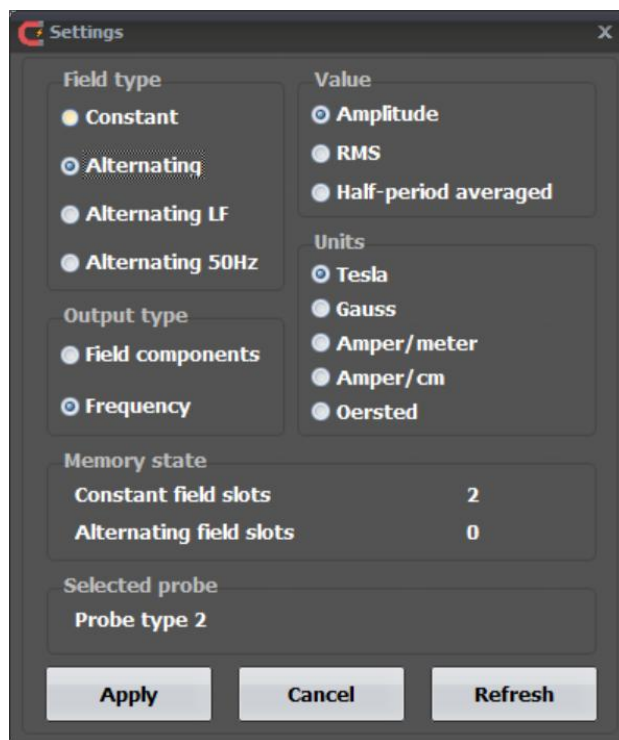

Figure A.8. TPM-250 settings window
5.4 The TPM-250 settings window (see Figure A.8) accessible in the “Device ...” menu is used for remote receiving, updating, and setting the TPM-250 milliteslameter. It contains the following controls and displays: